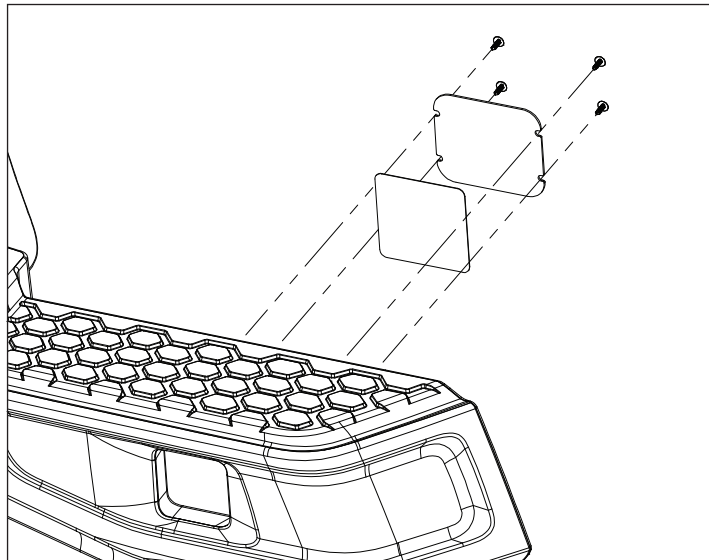

Figure 40
2. If you are not installing auxiliary lights into your Rear Bumper at this time, install the provided block off plates into the corner tanks using the supplied push in nylon rivets. The supplied red reflective decals can also be installed onto the block-off plates (fig. 40).